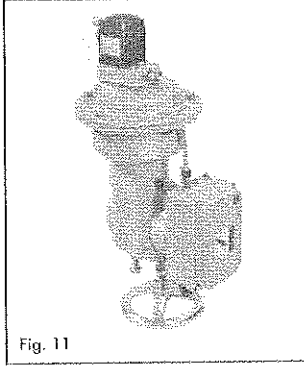

Fig. 11
- Attachment to rotary actuators with NAMUR interface, e. g. SAMSON's Type 3278 equipped with a SAMSON positioner (see Fig. 11)
- Attachment to on-off rotary actuators with NAMUR interface, e. g. SAMSON's Type 3278 equipped with a SAMSON positioner (see Fig. 11)